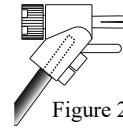

Figure 2
- Attach the prepared bare wire cable ends into the banana plugs and secure the connections. Refer to figure 2.